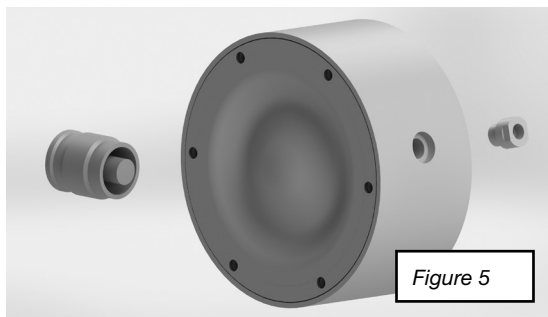

Figure 5
Adjust when necessary the position of the holes for the assembly pins by turning one of the diaphragms a little backwards. Screw into the center housing the muffler (7) and the air inlet connector (5) (see figure 5).